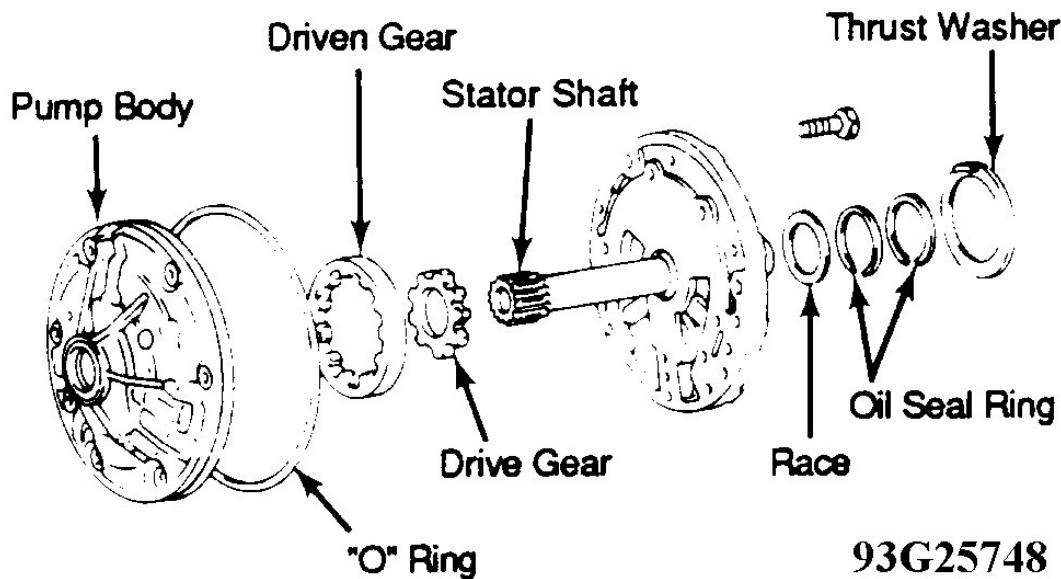

Fig. 17: Exploded View Of Oil Pump
2. Remove 11 bolts attaching oil pump body and stator shaft. Identify top and bottom and keep parts in order. Separate stator shaft and pump body. Mark gear location for reassembly reference. See **Fig. 17** . Using screwdriver, remove front seal.